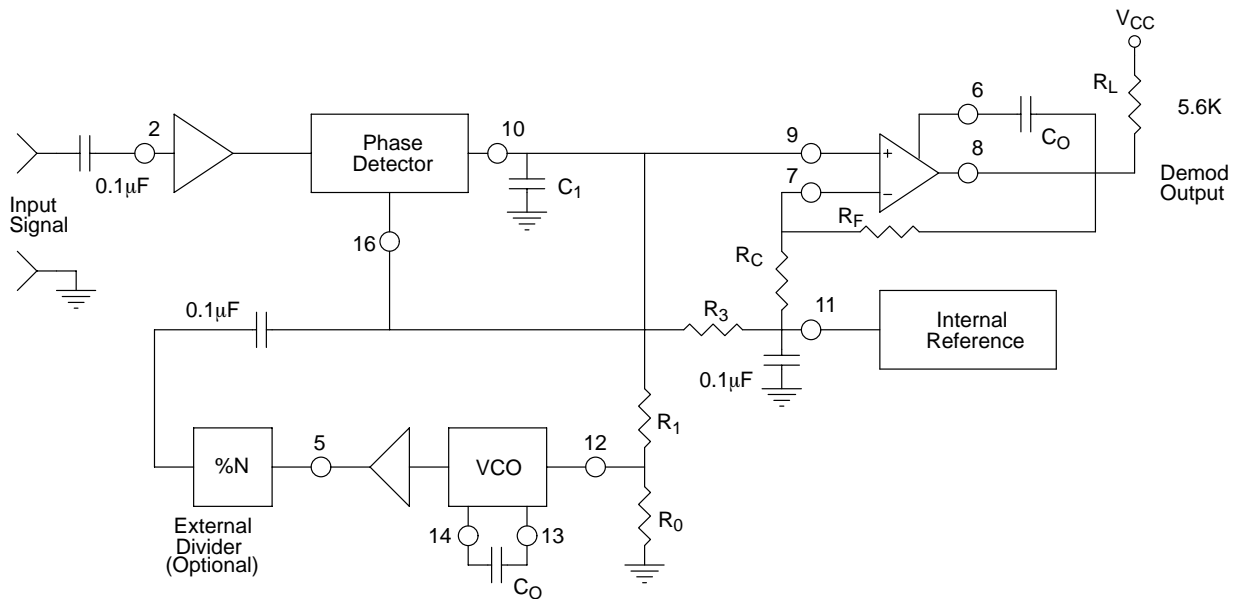
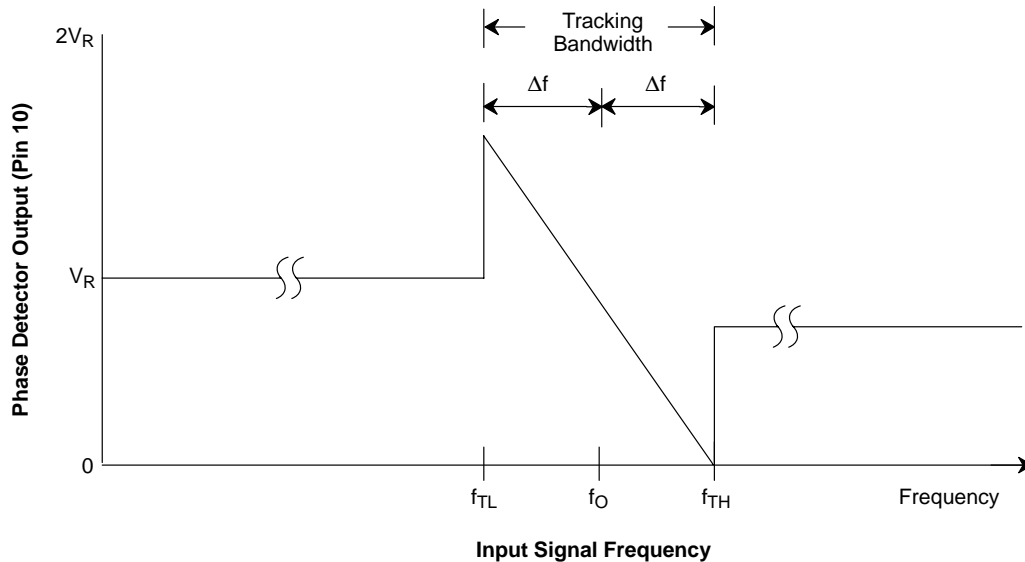
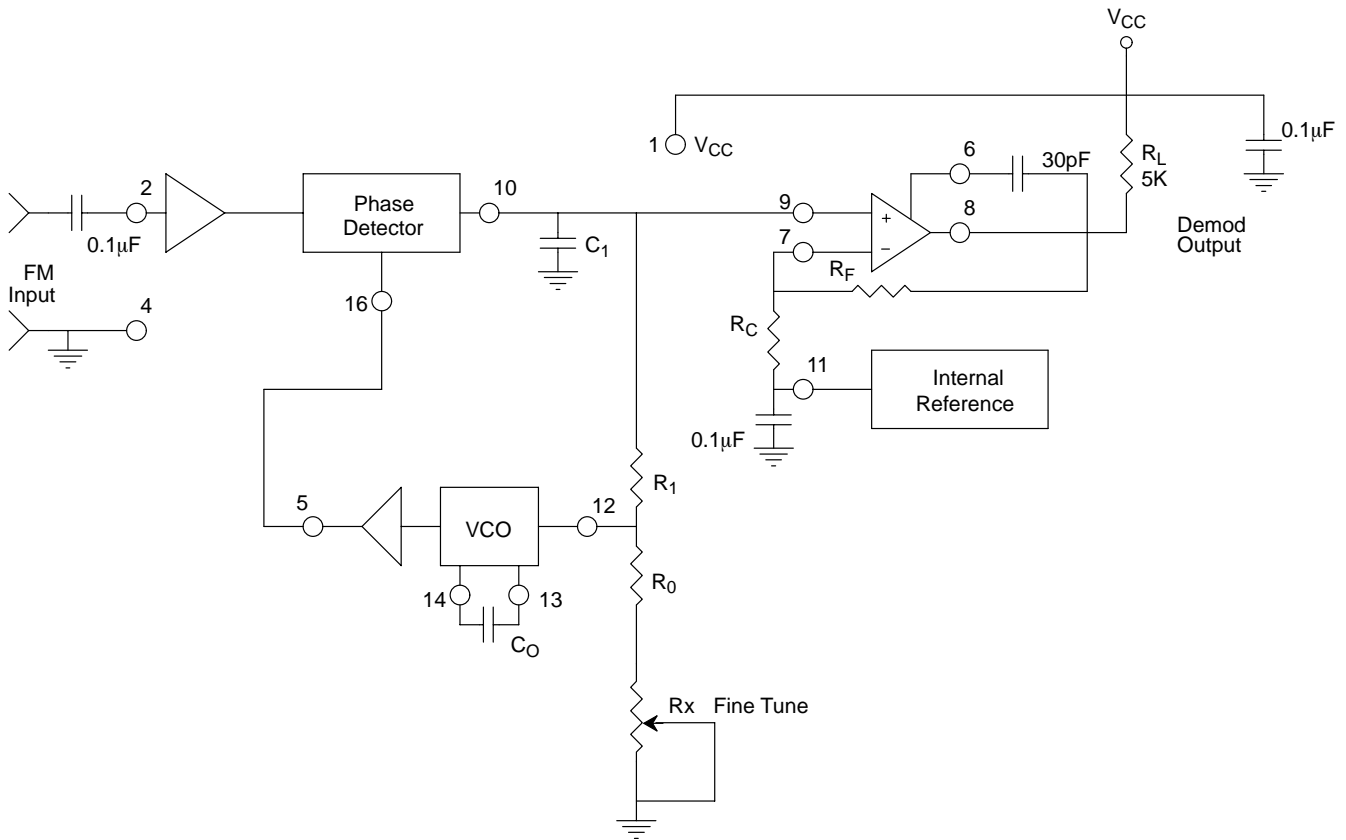

Figure 3. Generalized Circuit Connection for FM Detection, Signal Tracking or Frequency Synthesis
Figure 10. Phase Detector Output Voltage (Pin 10) as a Function of Input Signal Frequency
Figure 11. Circuit Connection for FM Demodulation
Test Conditions: $V_{CC} = +12V$, $T_A = +25^\circ C$, $R_0 = 30k\Omega$, $C_0 = 0.033\mu F$, unless otherwise specified. See *Figure 3* for component designation.
Phase Detector Output (Pin 10): This terminal provides a high-impedance output for the loop phase-detector. The PLL loop filter is formed by R_1 and C_1 connected to Pin 10 (see Figure 3). With no input signal, or with no phase-error within the PLL, the DC level at Pin 10 is very nearly equal to V_{REF} . The peak voltage swing available at the phase detector output is equal to $\pm V_{REF}$.
VCO Frequency Adjustment: VCO can be fine-tuned by connecting a potentiometer, R_X , in series with R_0 at Pin 12 (see Figure 11).
Figure 10 shows the basic frequency to voltage characteristics of XR-2212. With no input signal present, filtered phase detector output voltage is approximately equal to the internal reference voltage, V_{REF} at Pin 11. The PLL can track an input signal over its tracking bandwidth, shown in the figure. The frequencies f_{TL} and f_{TH} represent the lower and the upper edge of the tracking range, f_0 represents the VCO center frequency.
(See *Figure 3* and *Figure 10* for definition of components.)
7. VCO Conversion Gain, K_0 : (K_0 is the amount of change in VCO frequency, per unit of DC voltage change at Pin 10. It is the reciprocal of the slope of conversion characteristics shown in *Figure 10*).
XR-2212 can be used as a linear FM demodulator for both narrow-band and wide-band FM signals. The generalized circuit connection for this application is shown in *Figure 11*, where the VCO output (Pin 5) is directly connected to the phase detector input (Pin 16). The demodulated signal is obtained at phase detector output (Pin 10). In the circuit connection of *Figure 10*, the op amp section of XR-2212 is used as a buffer amplifier to provide both additional voltage amplification as well as current drive capability. Thus, the demodulated output signal available at the op amp output (Pin 8) is fully buffered from the rest of the circuit.
In the circuit of *Figure 11*, R_0C_0 set the VCO center frequency, R_1 sets the tracking bandwidth, C_1 sets the low-pass filter time constant. Op amp feedback resistors R_F and R_C set the voltage gain of the amplifier section.
The circuit of *Figure 11* can be tailored to any FM demodulation application by a choice of the external components R_0 , R_1 , R_C , R_F , C_0 and C_1 . For a given FM center frequency and frequency deviation, the choice of these components can be calculated as follows, using the design equations and definitions given on page 10.
Note: All calculated component values except R_0 can be rounded-off to the nearest standard value, and R_0 can be varied to fine-tune center frequency, through a series potentiometer, R_X , (See Figure 11).
The total tracking range of the PLL (see Figure 10), should be chosen to accommodate the lowest and the highest frequency, f_{max} and f_{min} , to be synthesized. A recommended choice for most applications is to choose a tracking half-bandwidth Δf , such that:
- d) Calculate R_1 to set tracking bandwidth (see *Figure 10* and design equation 5). If a range of output frequencies are desired, set R_1 to get: